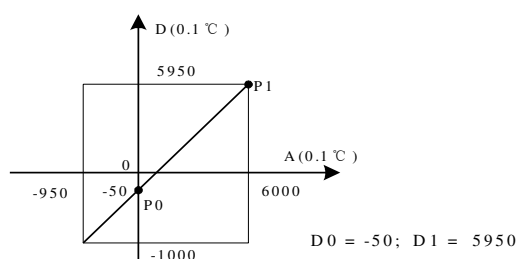

Figure 3-3 Example of characteristic change
(4) If the VC-4PT measurement value is 5°C (41°F) higher in actual use, the error can be eliminated by setting the two points P0 (0, -50) and P1 (6000, 5950) of the characteristic adjustment, see Figure 3-3 for an example.